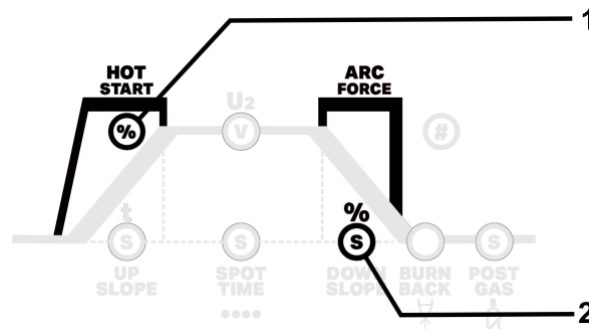

Fig.9
* 2T - When the trigger of the torch is pressed, the gas starts to flow until the welder makes the ignition by LIFTIG (see Fig.9) and the arc is established. The current rises according to the UPSLOPE time for the adjusted value of I_2 . When the trigger of the torch is released, the current decreases according to the set value of DOWNSLOPE, the arc extinguishes, and the POST GAS time starts.